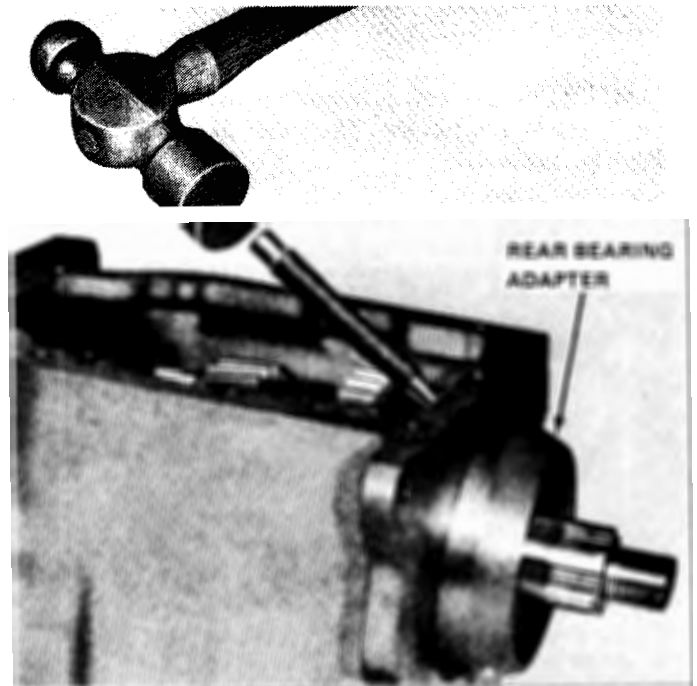

Fig. 6-7 Removing Rear Bearing And Adapter Assembly
(9) Remove rear bearing and adapter assembly using brass drift and hammer. Drive adapter out rear of case with light hammer blows (fig. 6-7).